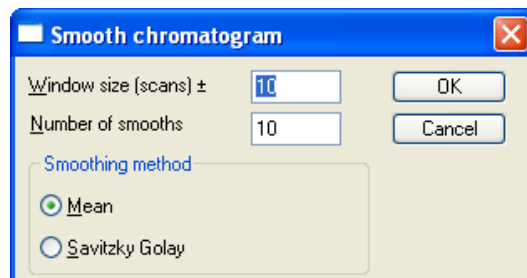

Figure 51 - Smoothing the chromatogram
9. Open the resulting TIC 2 chromatograms on a single page and smooth both with the settings shown in Figure 51.